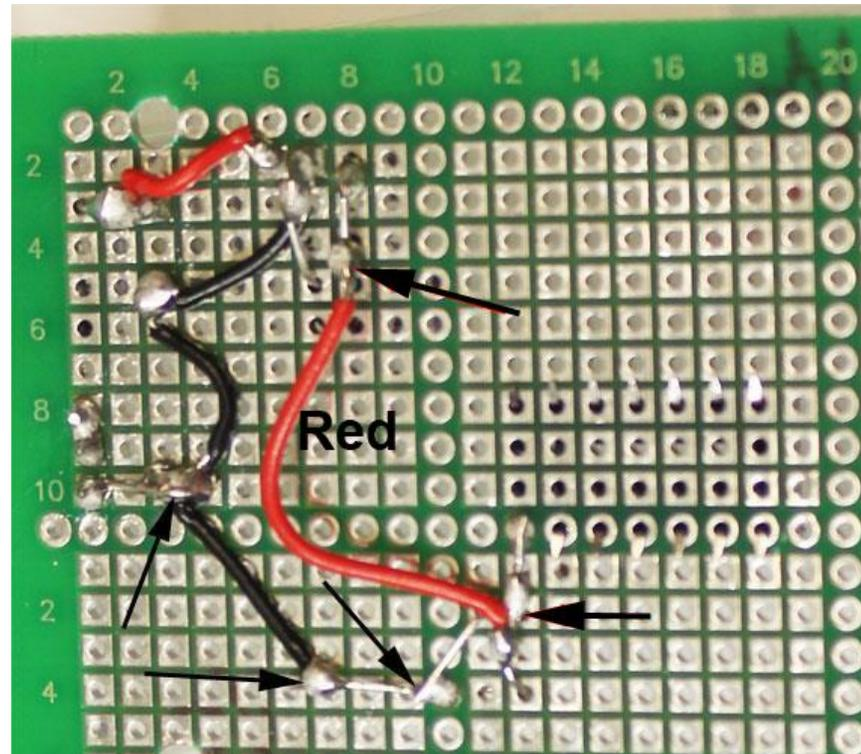

Figure 6
17. Prepare a red 22 gauge solid wire as seen in Figure 6. This will supply 5 volts regulated to pin #14 of IC1 socket. One end of the wire should be soldered to the output of the voltage regulator (top arrow) and the other end to pin #14 (bottom arrow).
18. Bend the negative wire of C5 and wrap it around the free wire of C4 (the arrow most to the right in row 4 of Figure 6). Then solder the connection.
19. Prepare a black 22 gauge solid wire to connect between the negative power bus and the free end of the wire of C4 (the connections of the wire are marked with arrows in Figure 6). Solder the connections.